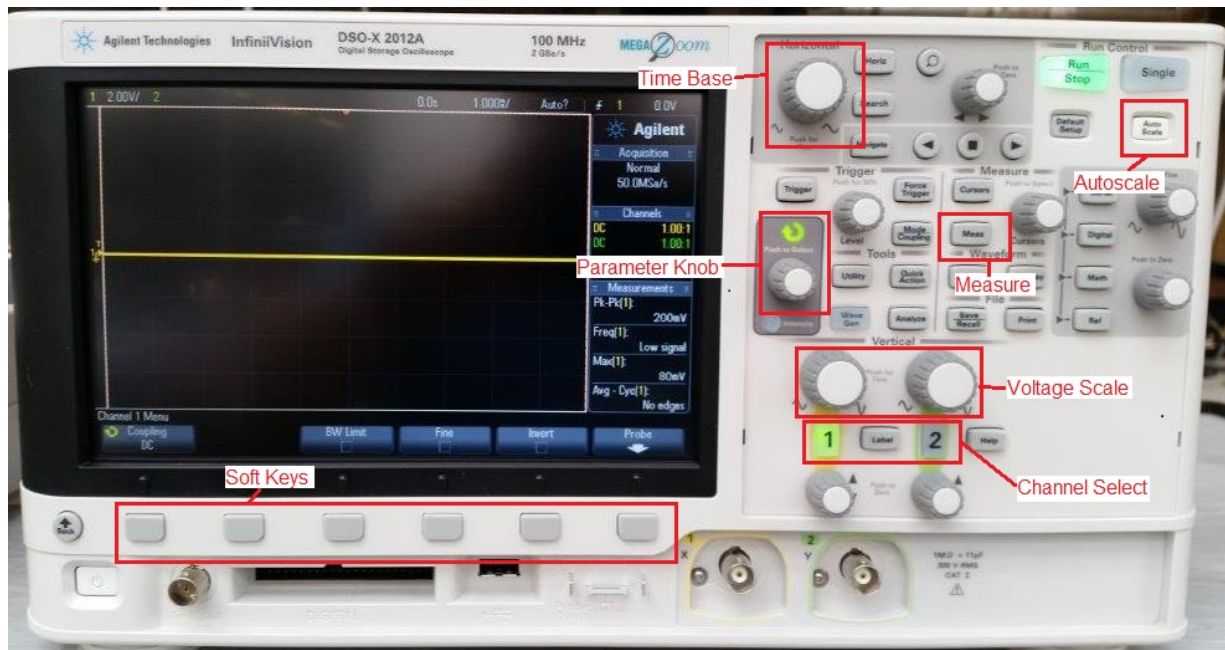

Figure 1: Agilent DSO-X-2012A Oscilloscope
5. The Agilent DSO-X-2012A Oscilloscope (see Figure 1)
You can control the voltage (vertical) and time (horizontal) scaling on the oscilloscope display by turning the relevant knobs, as shown in Figure 1.